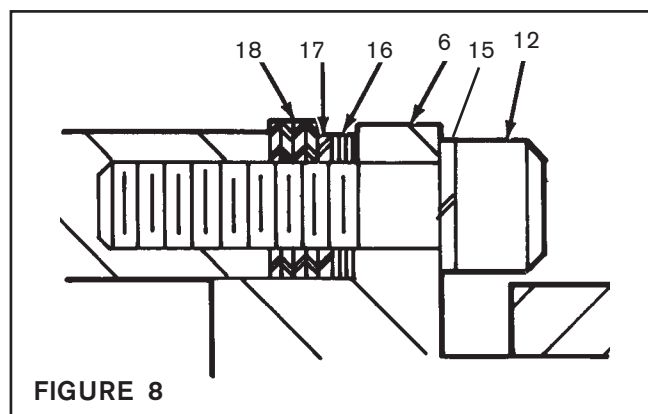

FIGURE 8
1. Unscrew Socket Head Cap Screws (Item 12) approximately 1/8" and pull Piston (Item 6) loose to free Shims (Items 16, 17, and 18) (See Figure 8).
2. Unscrew Socket Head Cap Screw (Item 12) until it is free; then, remove four Adjustment Shims (Item 18) that extend beyond the other Shims (Item 16 and 17) (See Figure 8).